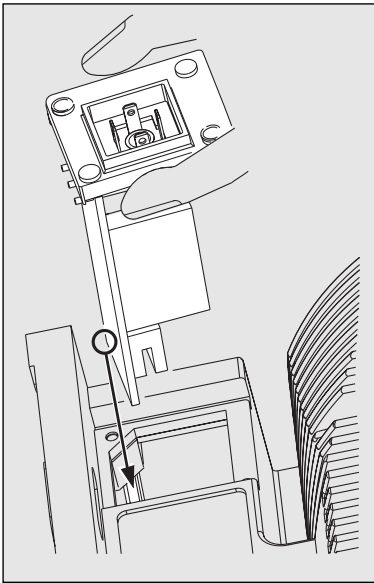

Fig. 14
- ▶ Hold the relay component with your right hand gripping the left and right hand edges of the relay cover, and tilt the front end slightly to the left (see fig. 14)